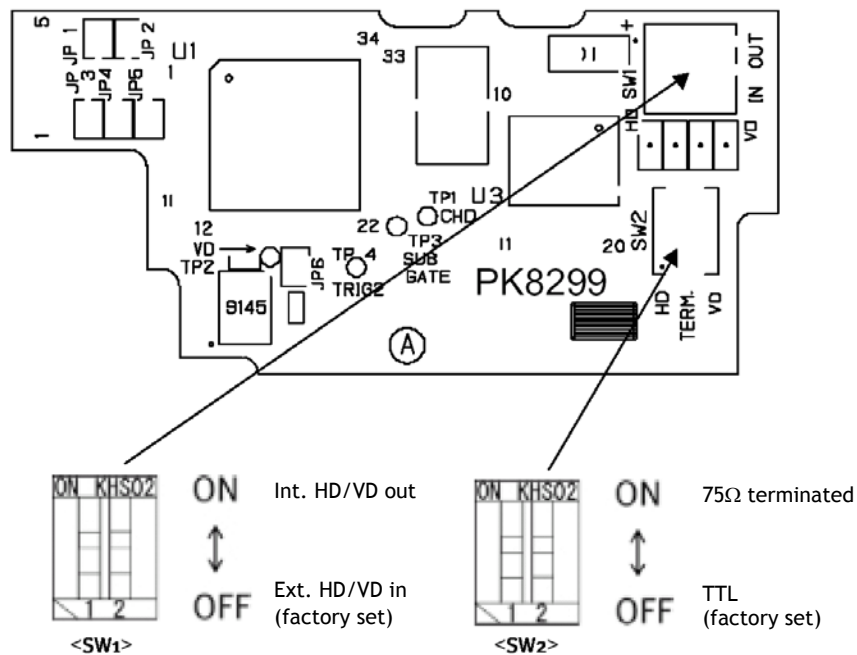

Fig. 26. HD/VD witch positions on PK8299.
3. Locate switches SW1-1 and SW1-2 on the PK8299 circuit board, and set both in the ON position. See fig. 26.